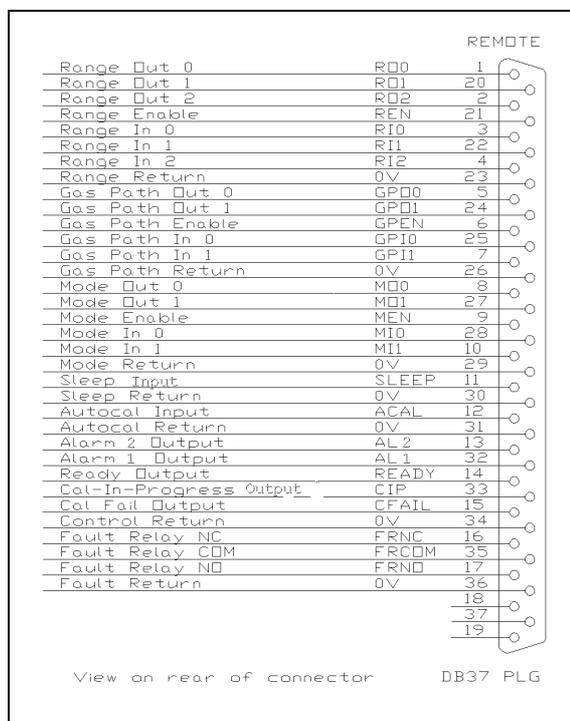

Figure 4 Remote Connections
- 3.7.2 The connector pin allocations are given in Figure 4. Not all functions are available in this analyser. Refer to section 7 for full information.